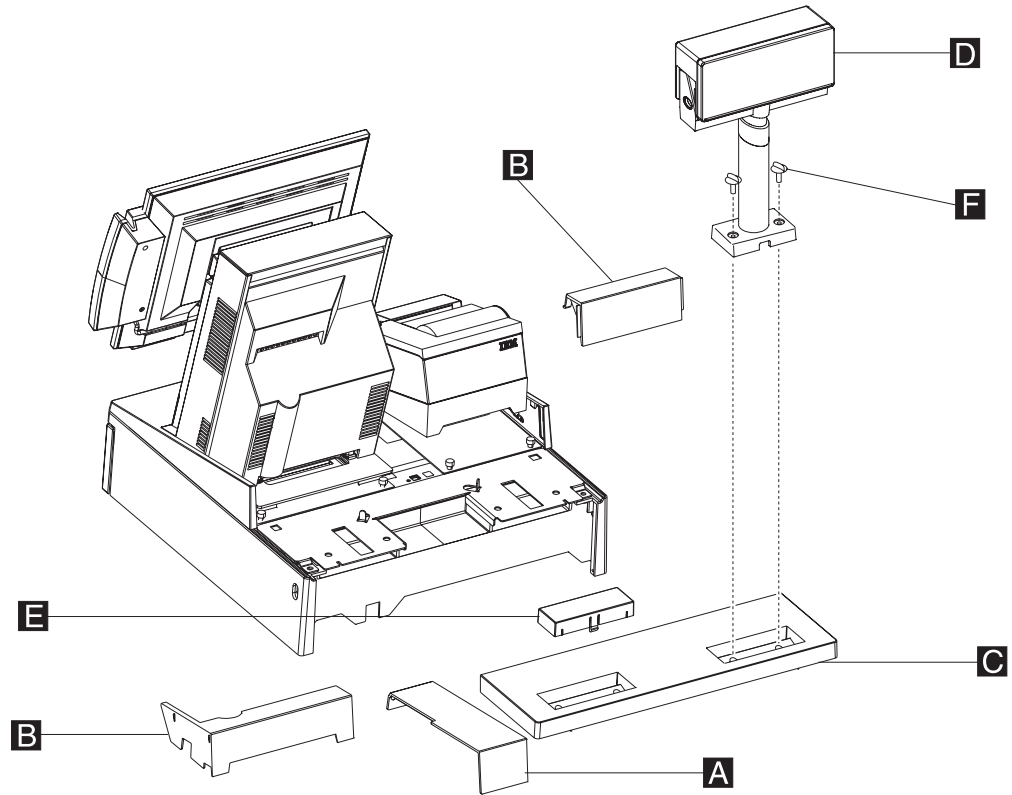

Figure 34. Attaching the distributed customer display to the system unit
- a. Remove the filler panels **A** and **B** (two) and the rear modesty panel **C** from the integration tray, as shown in Figure 34.
- b. Remove one of the two plugs **E** in the rear modesty panel. Figure 34 shows one plug removed.
- f. Reinstall the filler panels **B**, and then install **A**, as shown in Figure 34.